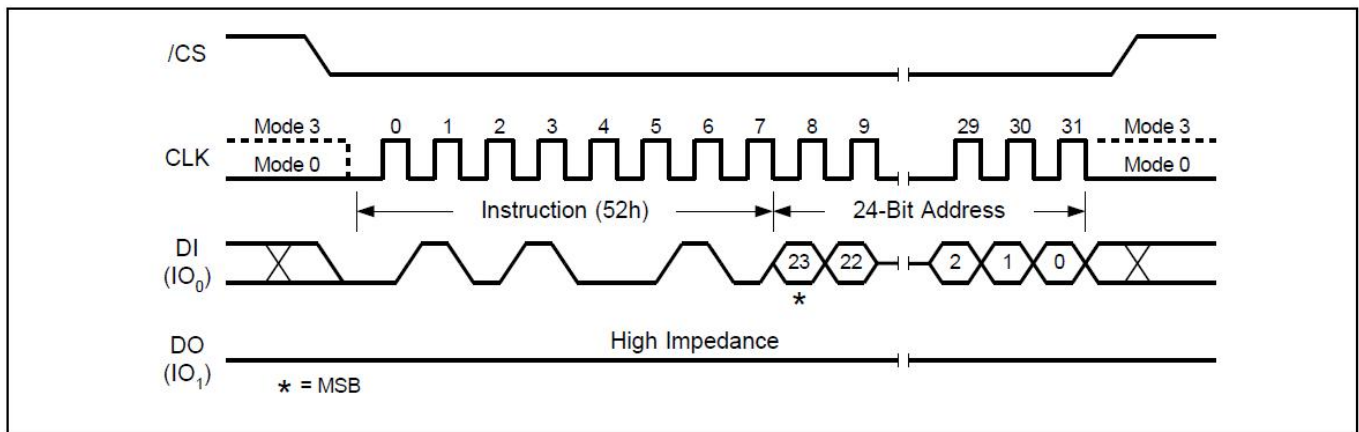

Figure17. 32KB Block Erase Sequence Diagram
The 32KB Block Erase command sequence: CS# goes low → sending 32KB Block Erase command → 3-byte address on DI → CS# goes high. The command sequence is shown in Figure17. CS# must be driven high after the eighth bit of the last address byte has been latched in; otherwise the 32KB Block Erase (BE) command is not executed. As soon as CS# is driven high, the self-timed Block Erase cycle (whose duration is t_{SE}) is initiated. While the Block Erase cycle is in progress, the Status Register may be read to check the value of the Write in Progress (BUSY) bit. The Write in Progress (BUSY) bit is 1 during the self-timed Block Erase cycle, and is 0 when it is completed. At some unspecified time before the cycle is completed, the Write Enable Latch (WEL) bit is reset. A 32KB Block Erase (BE) command applied to a block which is protected by the Block Protect (CMP, SEC, TB, BP2, BP1, and BP0) bits (see Table 1-2) is not executed.